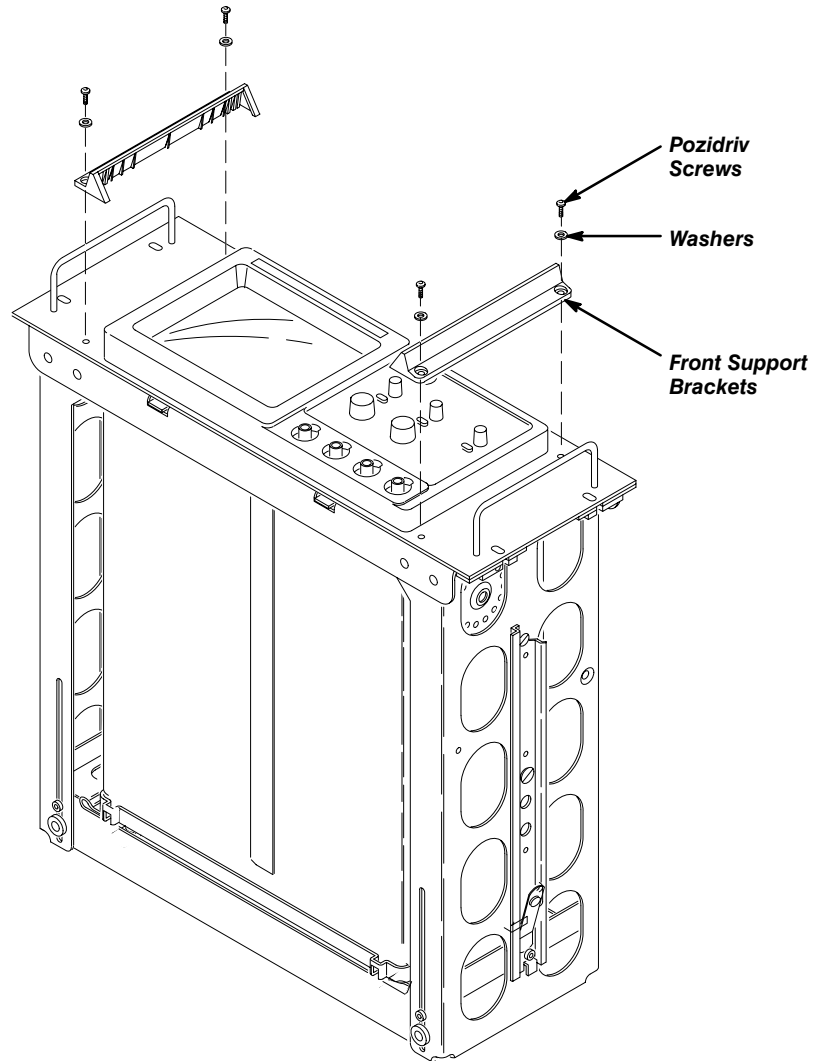

Figure 11: Install the Front Support Brackets
- c. Attach the instrument front support brackets (removed in Step 1d) using the four screws and four washers. See Figure 11.